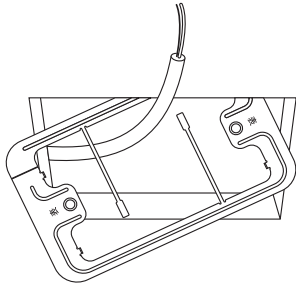

Fig. 8-29
- (1) Remove the metal plate of the receiver by slipping a slotted screwdriver or the like into the cutout on the bottom.
- (2) Cut out a hole in the ceiling to match the dimensions of the enclosed template. (95 X 51 mm)
- (3) Pass the wiring through the enclosed installation metal fitting and put it into the hole. (Fig. 8-29)